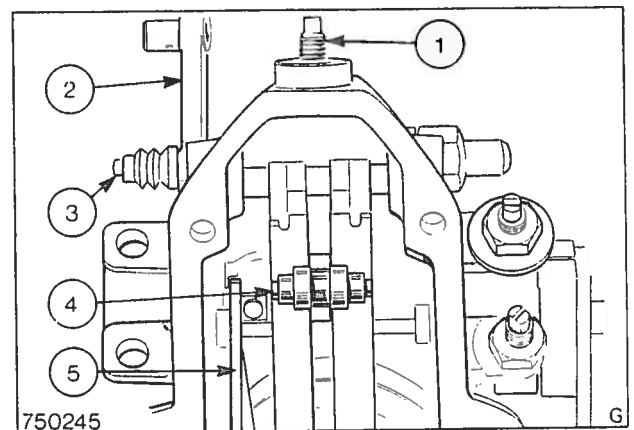

Fig. 14 Internal view of pump from drive end
10. Remove the 'dumbbell' shaped roller bearing from the throttle control lever cross-shaft fork (Fig. 14).